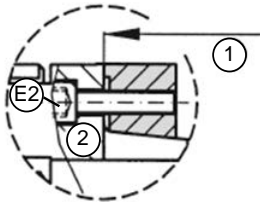
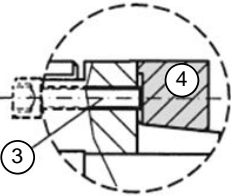
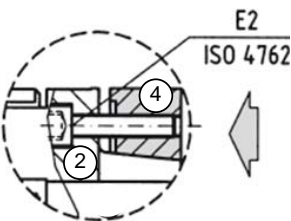

Figure 14: Coupling dead stop
Figure 15: Coupling clamp collar
Figure 16: Gap coupling dead stop
- ◆ ETH100&125: loosen all clamping screws (please refer to Figure 14: Coupling dead stop Pos.E2) equally (approx. 3 mm) and screw in two of the screws in the open threaded holes. Now tighten screws evenly until the clamp collar (please refer to Figure 15: Coupling clamp collar Pos. 4) is released from the coupling hub (please refer to Figure 16: Gap coupling dead stop Pos. 2) and can be freely moved.
- ◆ Please make sure that the clamping screw(s) of the coupling half is/are released and that the clamp collar (please refer to Figure 14: Coupling dead stop Pos. 4) and the coupling hub ((please refer to Figure 14: Coupling dead stop Pos. 2) are pulled apart.
- ◆ ETH100&125: Tighten the fixing screws (please refer to Figure 16: Gap coupling dead stop Pos. E2) crosswise with a torque wrench in 3 turns with 1/3, 2/3 and full tightening torque (please refer to Table 1: Tightening torques for motor/gearbox assembly) until the final tightening torque is attained and the clamp collar touches the coupling half. The dead stop (please refer to Figure 17: Coupling dead stop Pos. 1) on the coupling half (please refer to Figure 17: Coupling dead stop Pos. 2) prevents too high pretension of the conical clamp collar and ensures high rotational accuracy.